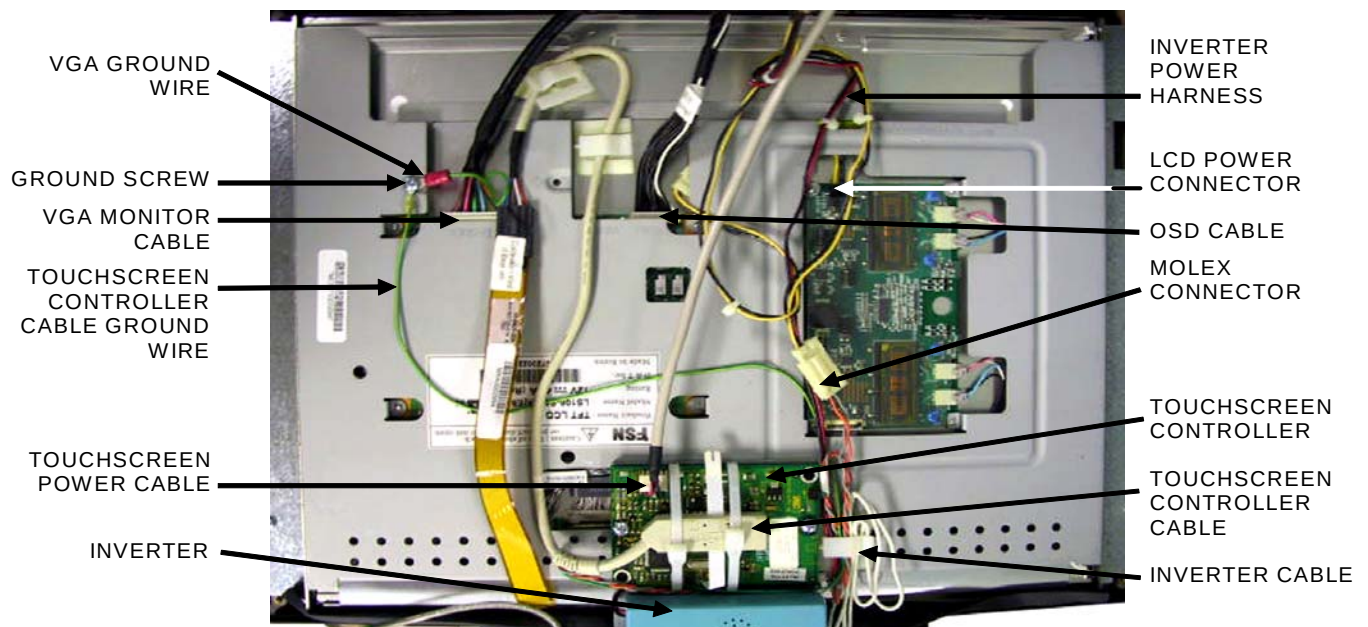
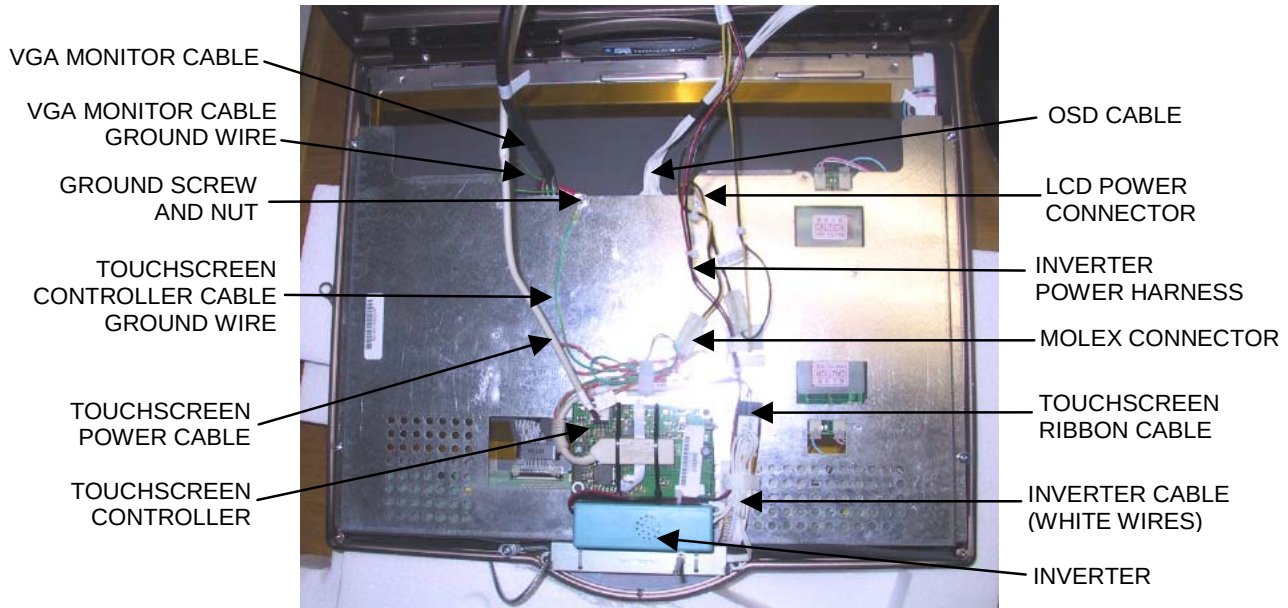

FIGURE 5 - REAR VIEW OF 17" MONITOR
FIGURE 6 - REAR VIEW OF 19" MONITOR
7. Disconnect the VGA connector from the monitor. Remove the screw securing the VGA and touchscreen controller ground wires to the monitor (17"), or the nut securing the VGA and touchscreen controller ground wires to the ground screw on the back of the monitor (19" & Widescreen). *Note: On the Aurora Widescreen this nut may secure only the VGA ground wire.* Disconnect the 14-pin OSD cable and the LCD power connector (yellow & black wires) from the monitor. Refer to Figure 5 for 17" games, and Figure 6 for 19" and Widescreen games.
8. Disconnect the touchscreen power cable from the touchscreen controller, then disconnect the Molex connector, identified by the orange and gray wires (this does not exist on Aurora Widescreen systems). Refer to Figure 5 for 17" games, Figure 6 for 19" and Widescreen games.
9. Release harnesses from clamps; this may include the inverter cable, the inverter power harness, the Molex harness, the touchscreen controller cable, the touchscreen controller cable ground wire, the harness connecting the Molex connector to the power supply, and/or the touchscreen ribbon cable. Refer to Figure 5 for 17" games, and Figure 6 for 19" and Widescreen games.
10. For 19" and Widescreen games: Remove the inverter from the Velcro securing it to the LCD bracket (19") or touchscreen controller mounting plate (Widescreen) and carefully place it out of the way of the monitor assembly. See Figure 6.
If you are replacing the touchscreen: Remove the touchscreen controller cable from the touchscreen controller (see Figure 5).